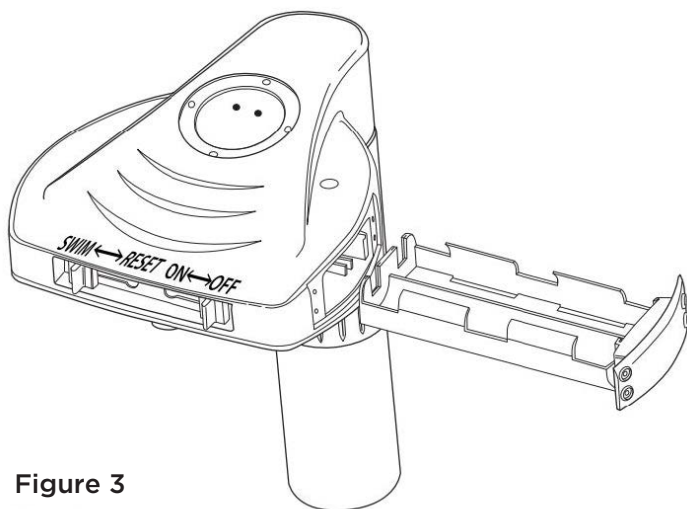

Figure 3
STEP 4: To install/replace batteries, remove all four screws from the battery cover. Refer to **Figure 3**. Do not lose screws. When the 6 long life alkaline D cell 1.5V batteries are installed, the alarm will loudly beep twice. Next, turn front switch to SWIM mode. The alarm will sound in one long burst to signify it is in swim mode. WHITE LED will flash on top of alarm head every 20 seconds to indicate that the alarm is on and can be handled for 3 minutes without siren sounding.